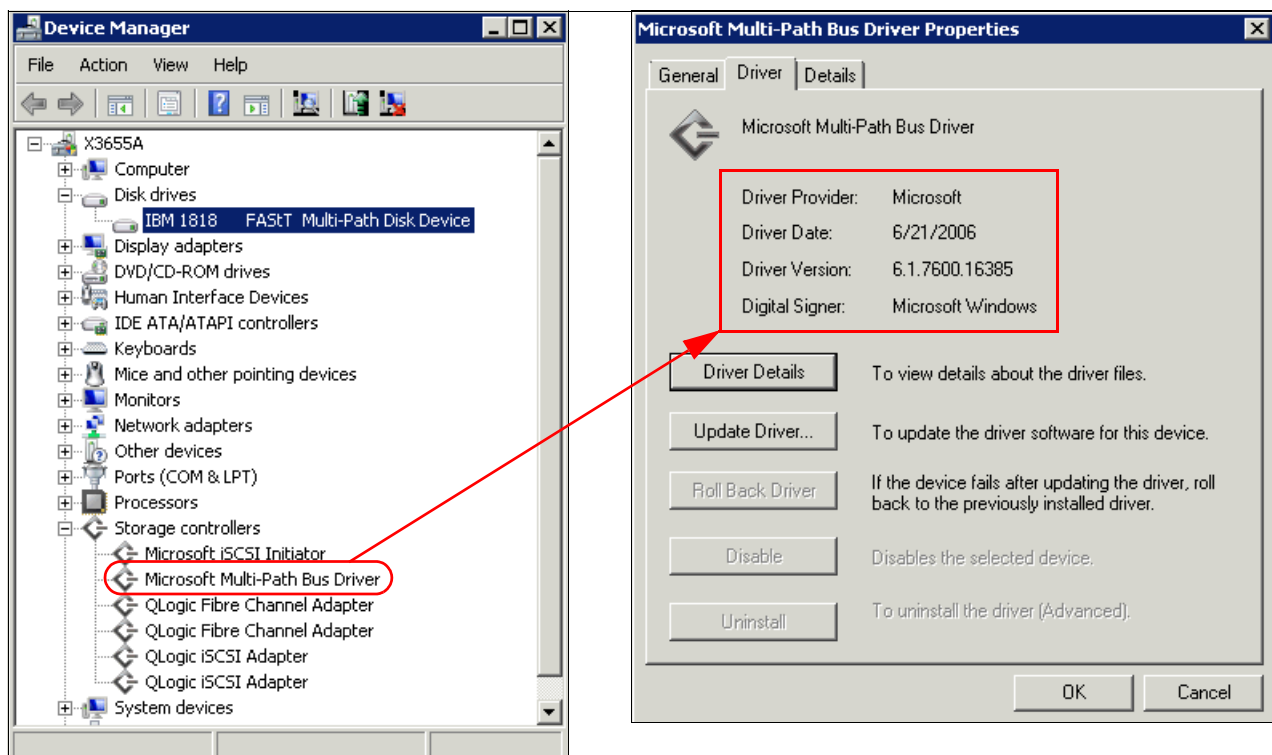

Figure 5-123 Determining the device driver in use
- If you are running MPIO, as shown in Figure 5-123, there is a module under the Storage controllers tree that identifies the driver. Right-click it and select Properties to see the version of the driver installed under the Driver tab.